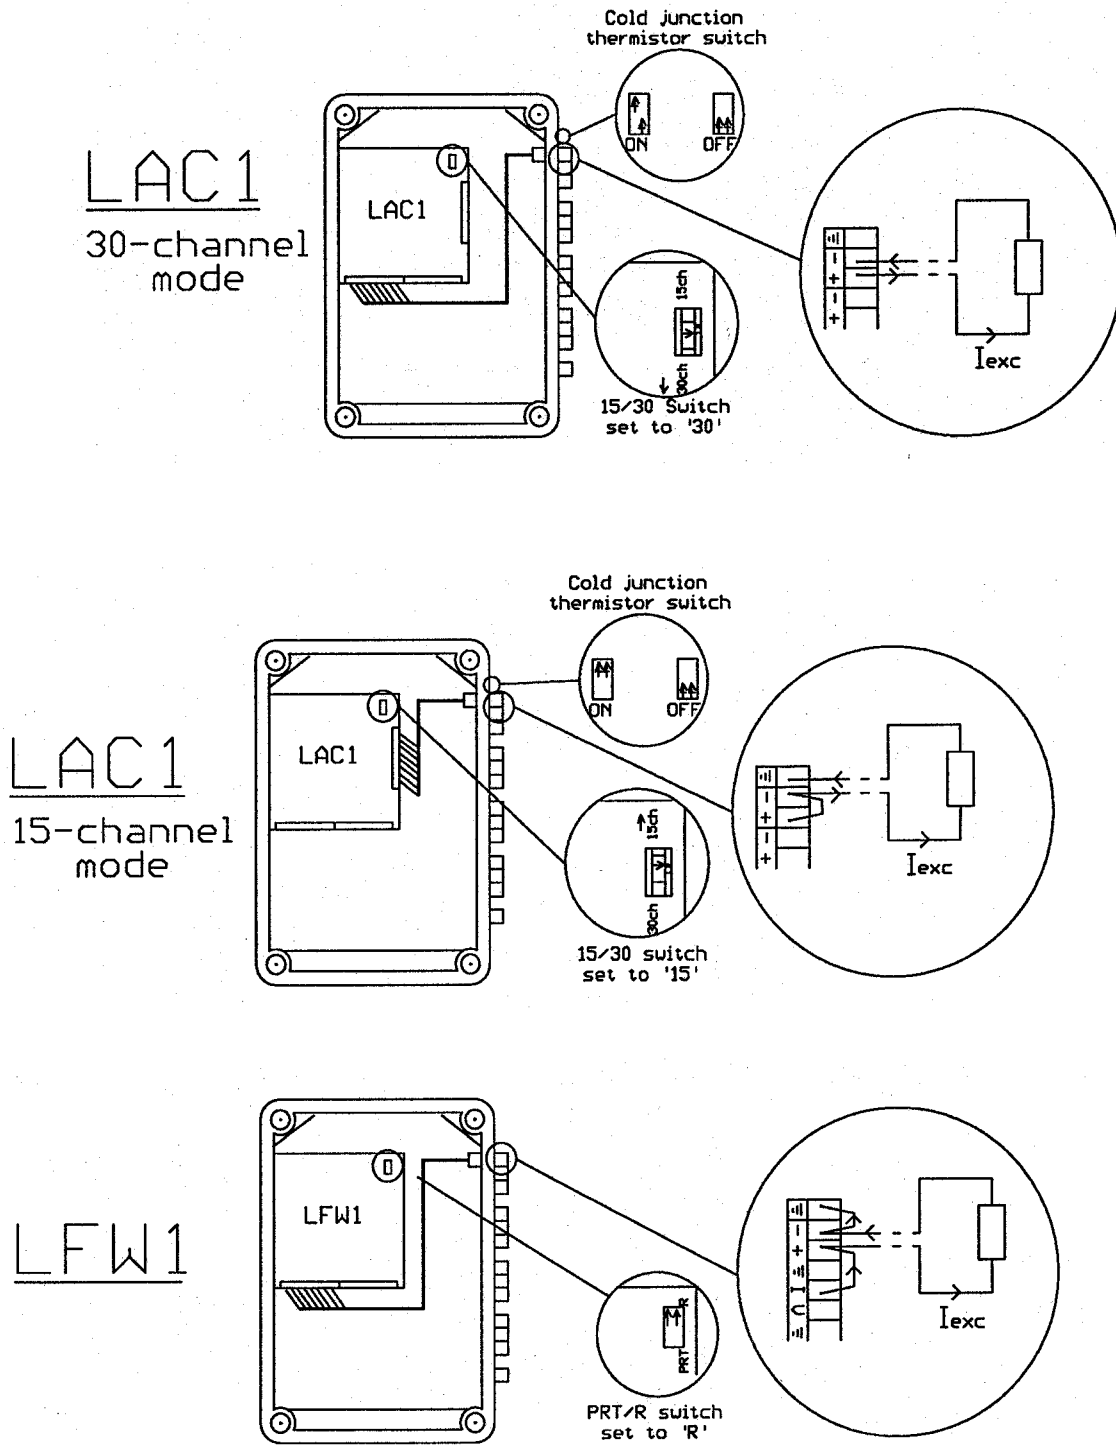

Figure 23 - Sensor connections: 2-wire resistance
- The cold junction thermistor can be switched to channel 1 for approximate temperature measurements. See Figure 23 - Sensor connections: 2-wire resistance.
- The cold junction thermistor can be switched to channel 1. See Figure 23